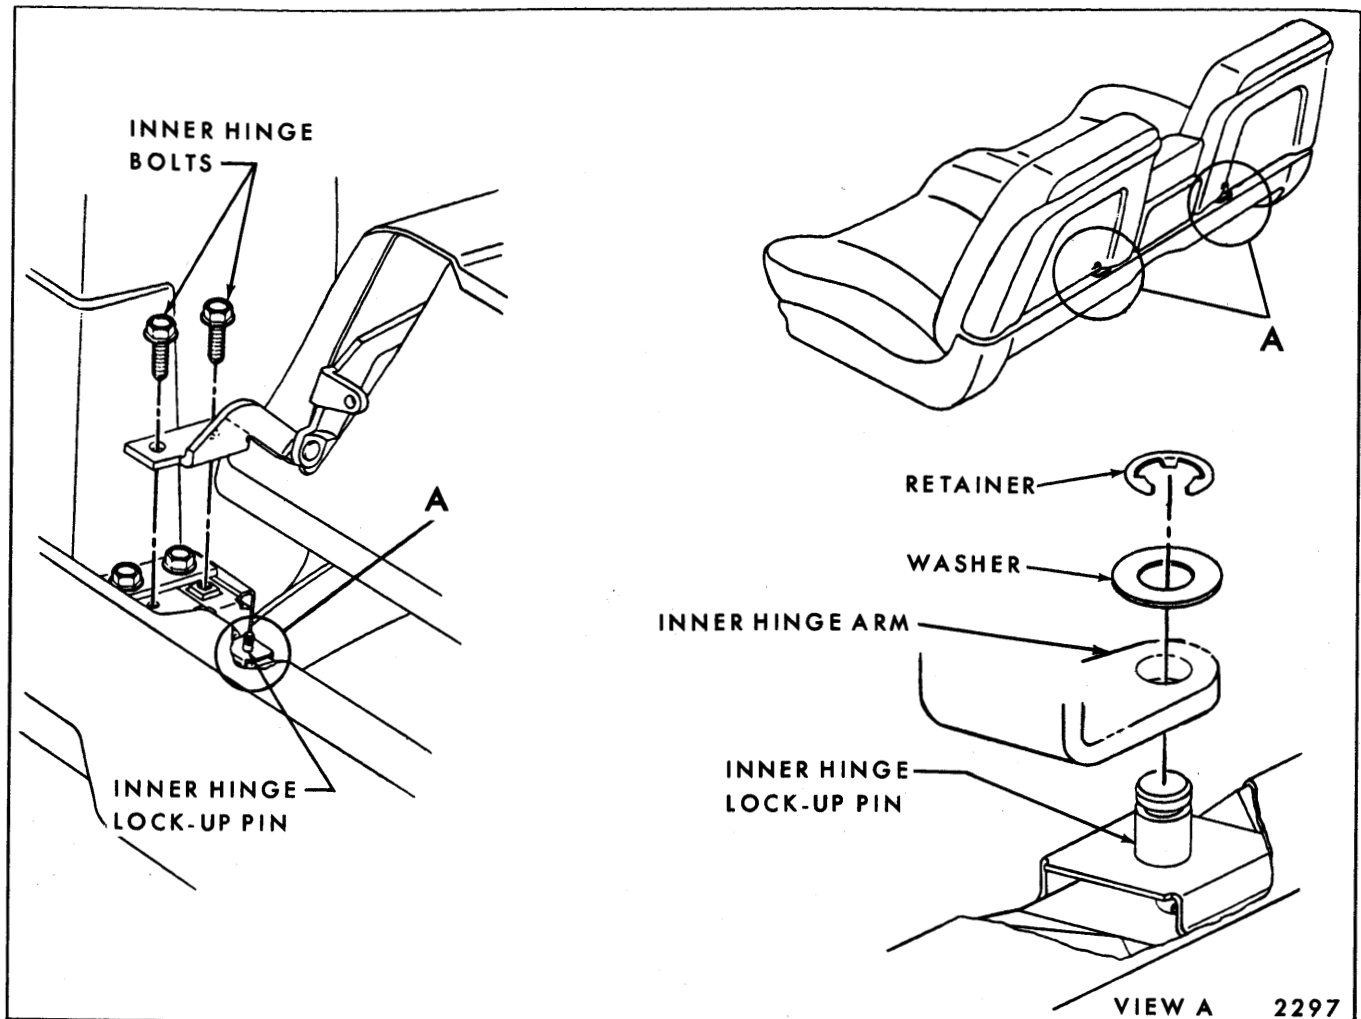

Fig. 10-24—Strato Full Width Seat Back Attachment - Chevrolet 16639 Style
3. Using a suitable hooked end tool between seat back and seat cushion, at location "A", remove retaining ring locking seat back at inner hinge (see View "A", Fig. 10-24).
5. Carefully tilt seat back forward. Remove inner hinge bolt cover plate. Remove inner hinge bolts (Fig. 10-24) and carefully remove seat back from seat assembly.